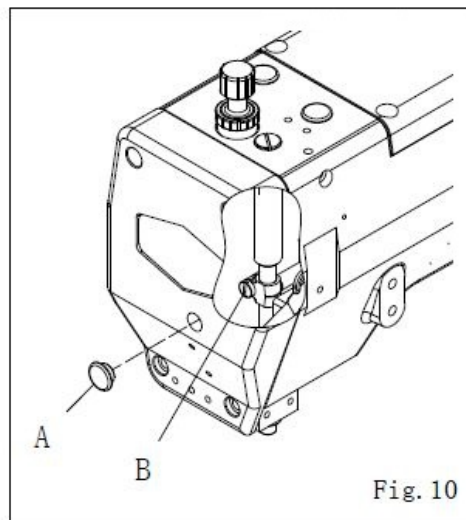

Fig. 10
2. 若需要调整时，请先打开机头前盖之止油胶塞(A)，放松针棒连杆上的螺丝(B)，上下调整针棒的高度后再固定之。(图 10)
2. If you would like to adjust the height of Needle Bar, please remove the rubber plug of front cover and loose the screw (B) on Needle Bar Rod (A). Adjust the Needle Bar up or down to require height and fix the screw. (Fig. 10)